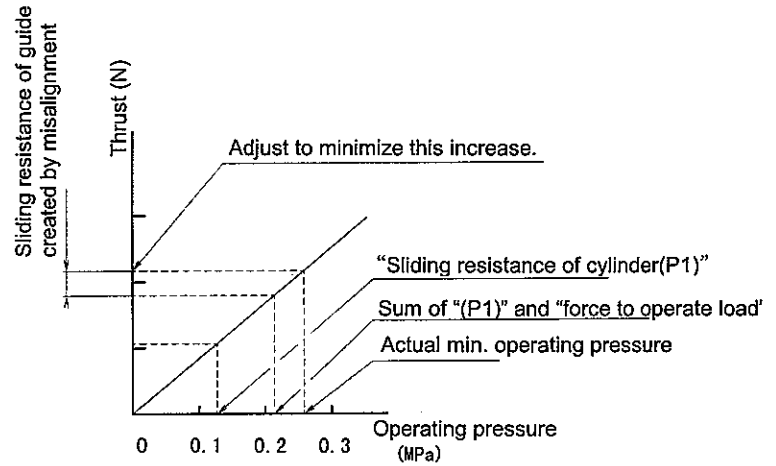

Fig. 5 (Reference)
- 3) The actual min. operating pressure is sum of "sliding resistance of cylinder", "force to operate load" and "sliding resistance of guide". (Fig. 5)